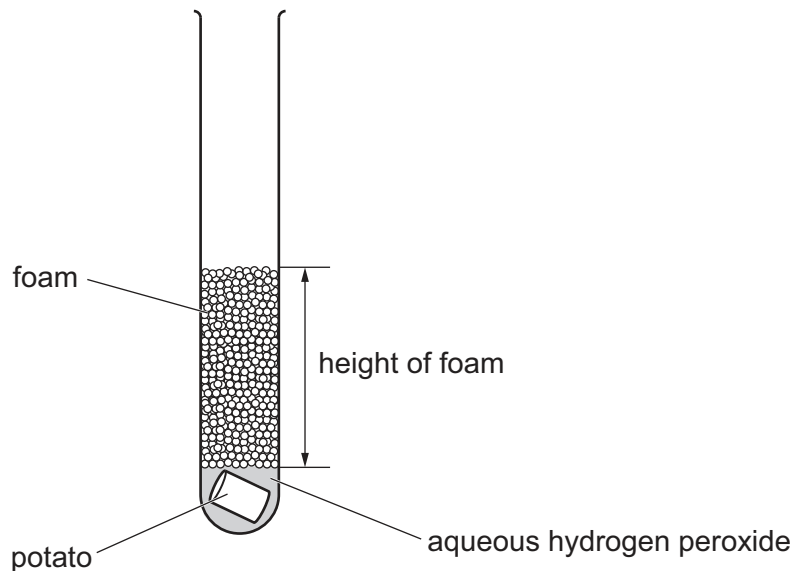

Fig. 1.1
The height of the foam is measured as shown in Fig. 1.1.
- step 7** After 5 minutes, measure the height of the foam in each boiling tube, as shown in Fig. 1.1.